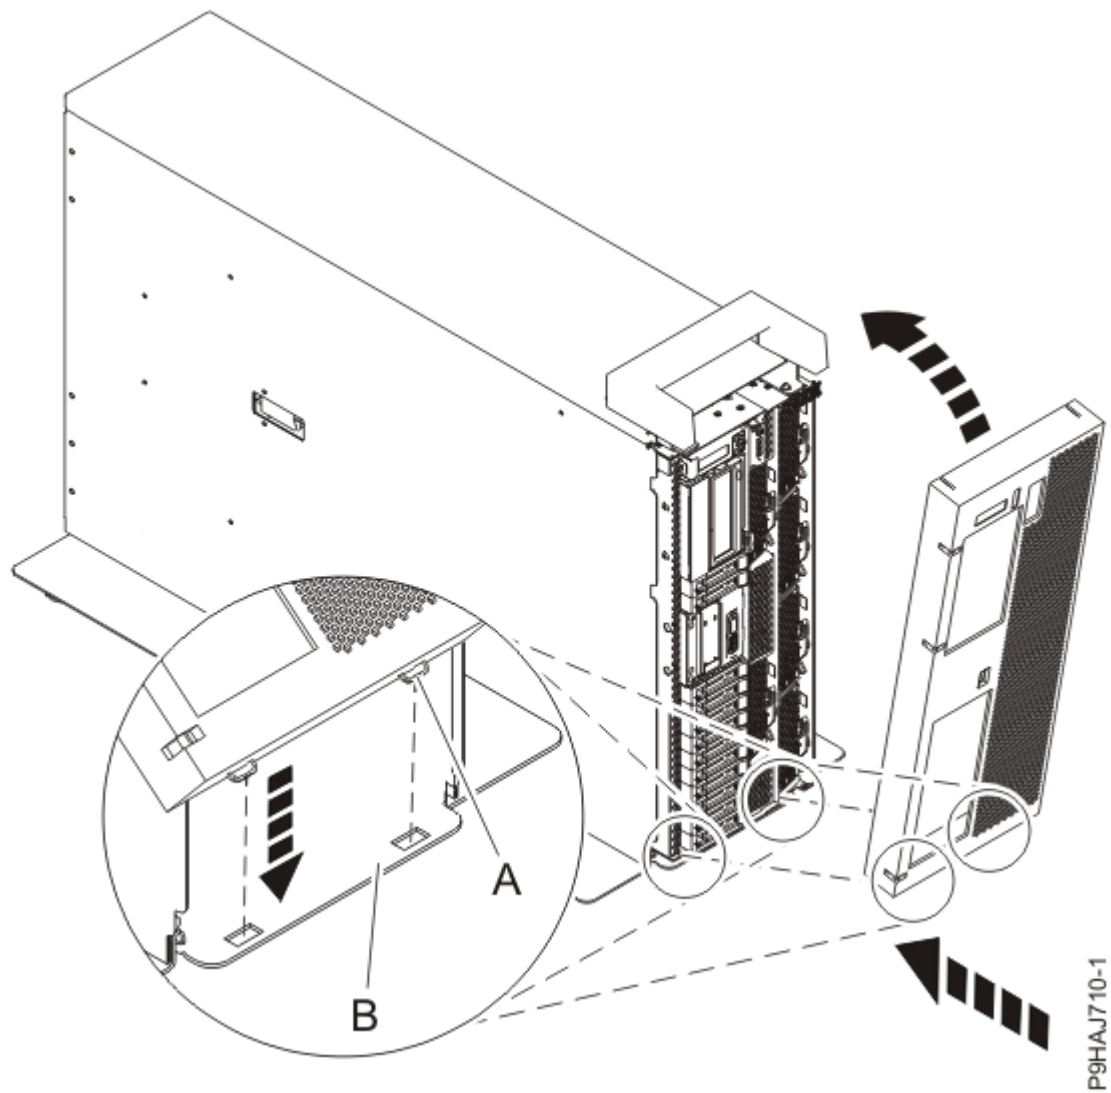

Figure 15. Installing the front cover and door
- b) Align the cover until the two cover tabs **(A)** are seated into the slots on the base plate **(B)** as shown in Figure 15 on page 30.